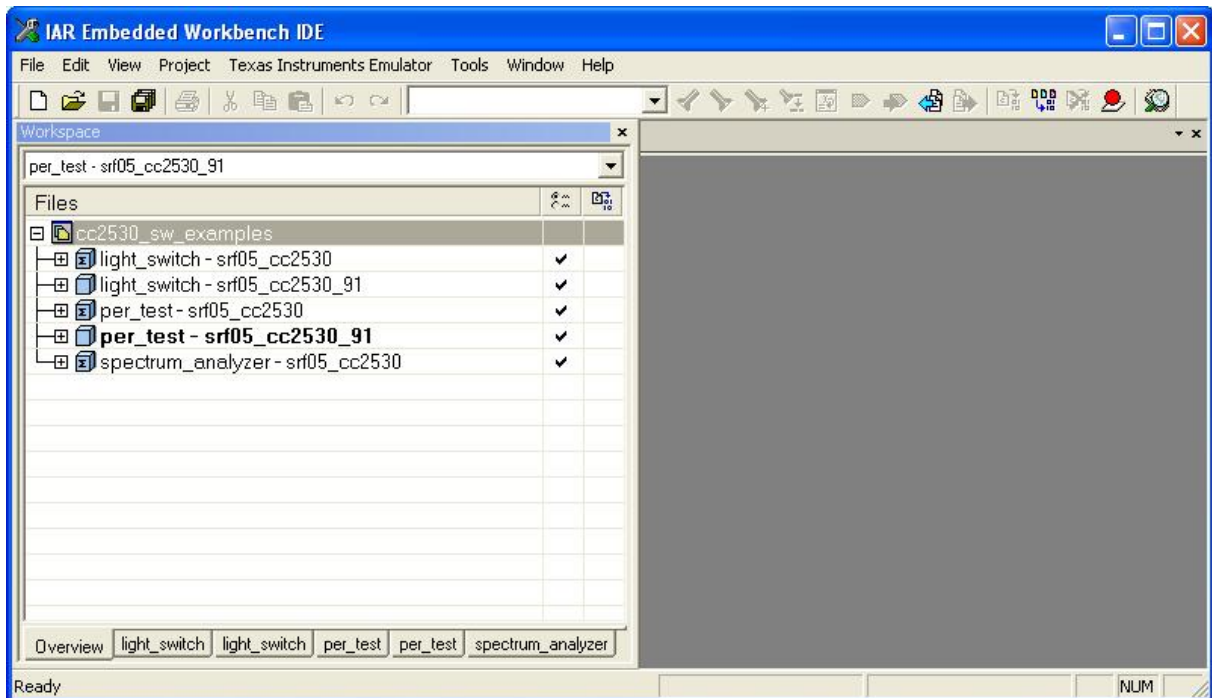

Figure 2 IAR EW
7. Open the workspace file **CC2530_SW_examples.eww** with IAR. This file is found in the folder **ide** under the folder where the CC2530 Software Examples was unzipped. Figure 2 shows the IAR EW with the workspace opened.